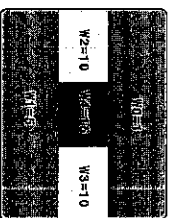

Fig. 1
- **PRESET 1** (Basic setting, see Fig. 1)
- **MANUAL 1** (or **MANUAL 2**) (**Fig. 1, 3**)